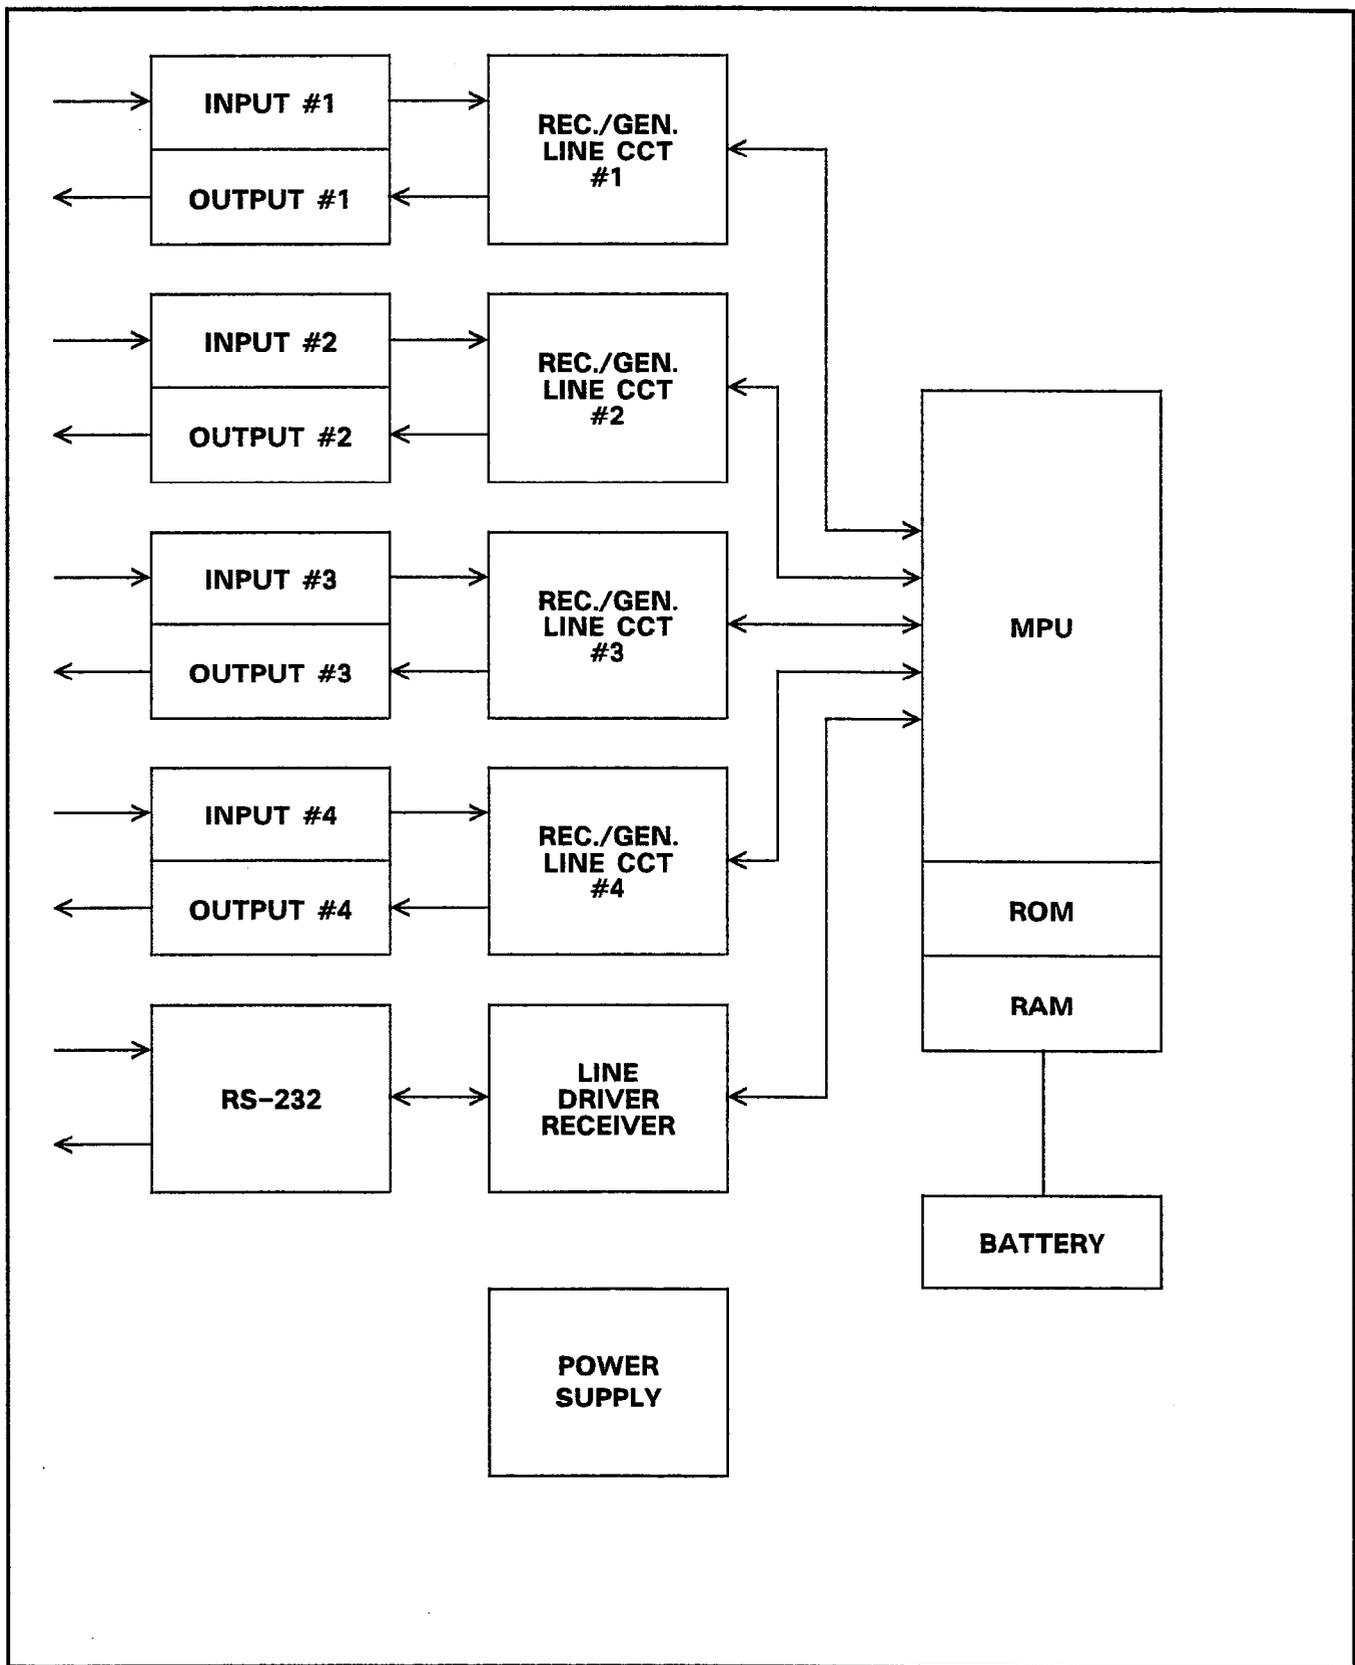

Figure C-1, SMarT-1™ System Block Diagram
8.01 This part will be added at a later date. For the present, refer to Appendix C, Figures C-1 and C-2 for an overall block diagram, and a simplified electrical diagram of the Controller, respectively.
C1.01 Figures C-1 and C-2 on the following pages are a block diagram and a simplified electrical diagram for the SMarT-1[™] Security Access Controller. Table C-1 is a listing of the standard 7-bit ASCII codes followed by the code equivalents. Table C-2 contains Legal Dialer Programming Input Characters.